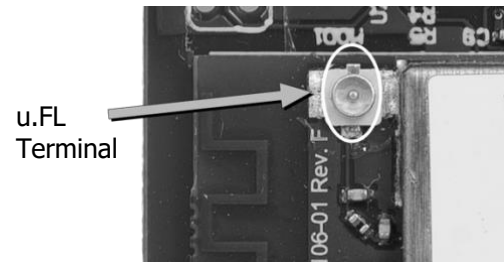
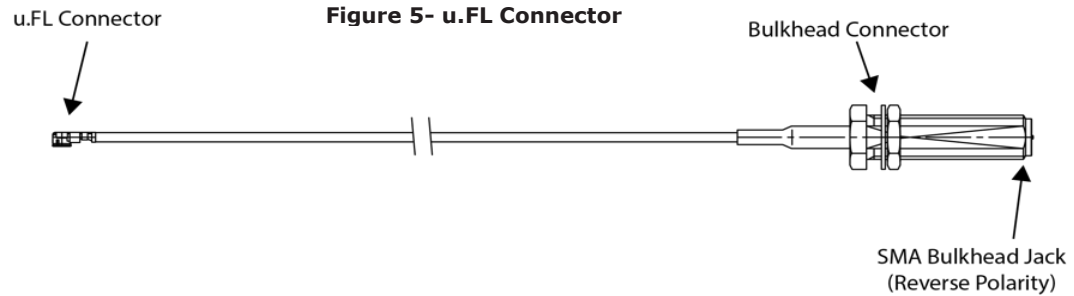

Figure 4- u.FL Terminal
Figure 5- u.FL Connector
4. Attach the u.FL cable (Figure 5) to the u.FL terminal (Figure 4).